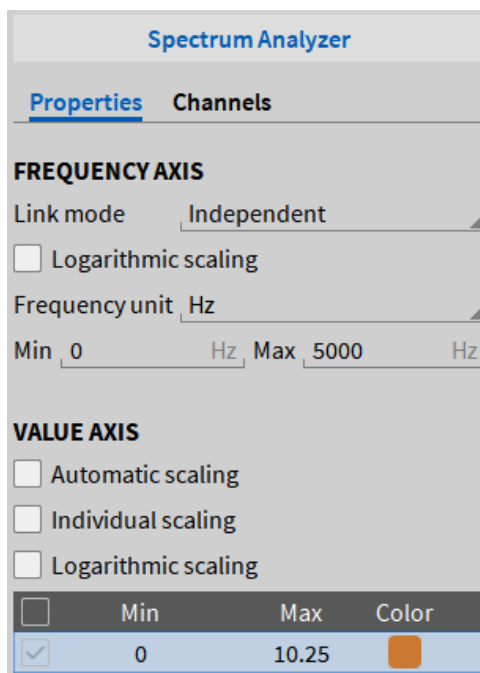

Fig. 8.41: Instrument Properties of the Spectrum Analyzer if Frequency Domain channels are assigned
- If frequency domain channels are assigned to the Spectrum Analyzer, the Instrument Properties are reduced to the Frequency axis and Value Axis settings (see Fig. 8.41). For details, refer to Additional instrument properties.